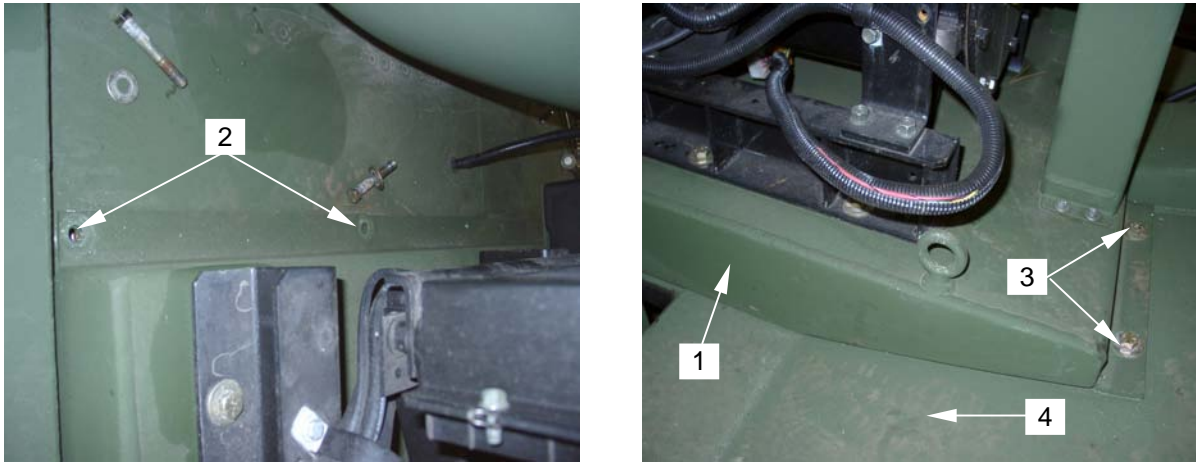

Figure 11. Securing Skid to Trailer Frame
28. Lift engine/vacuum pump skid (**figure 11, item 1**) off the dunnage and set it upon trailer frame so that mounting holes (**figure 11, item 2**) are aligned.
29. Install seven bolts, nuts and flat washers (**figure 11, item 3**), securing the engine/vacuum pump skid (**figure 11, item 1**) to the trailer frame (**figure 11, item 4**).